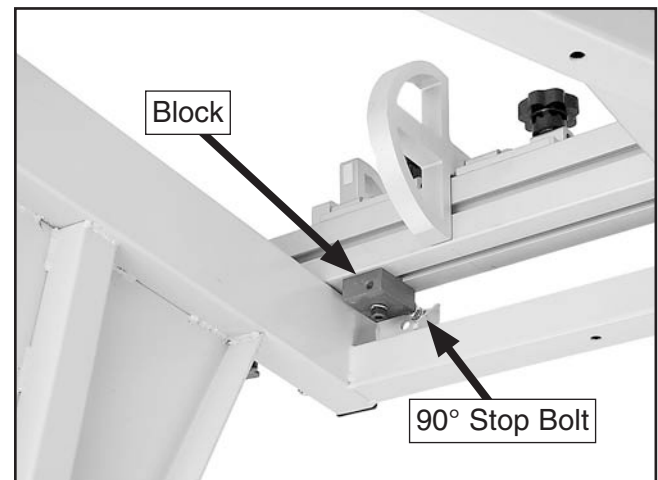

Figure 75. Crosscut fence mounting locations.
1. Drop the crosscut fence into the center stud hole and rotate it until the block shown in **Figure 75** touches the 90° stop bolt.